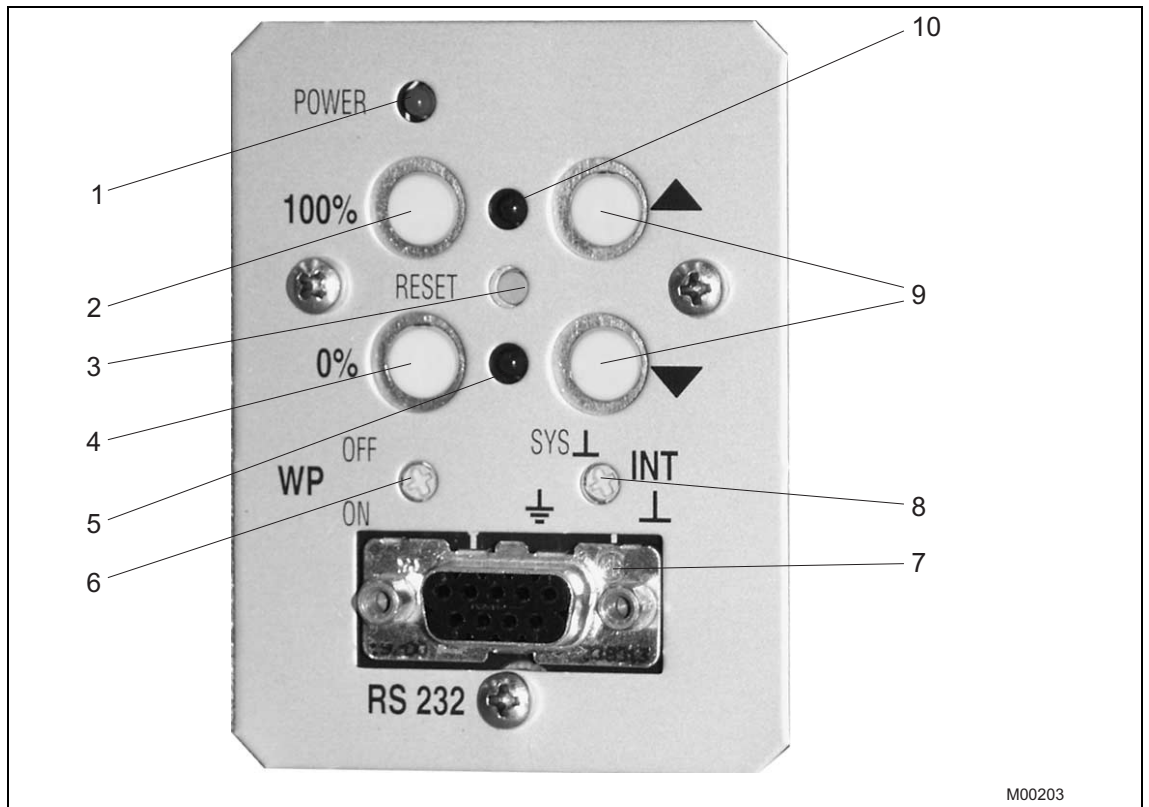

Fig. 1: Commissioning and service field (ISF)
- Switch the electronic unit to the "Device setup" operating mode. Press and hold both travel buttons (9) at once for approx. 5 s until both LEDs (items 5 and 10 in Fig. 1) flash in sync at a rate of 4 Hz.